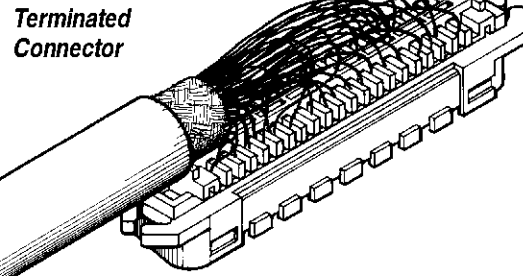

Figure 5
3.4. Cable Termination (Figure 5)